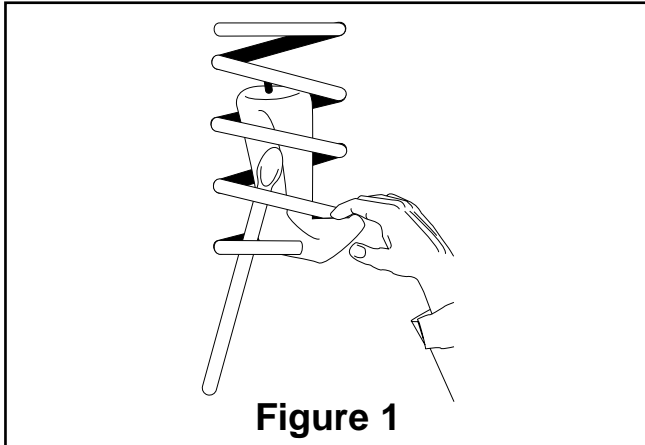

Figure 1
4. Insert the air cylinder into the coil with the valve stem at the top (Figure 1).